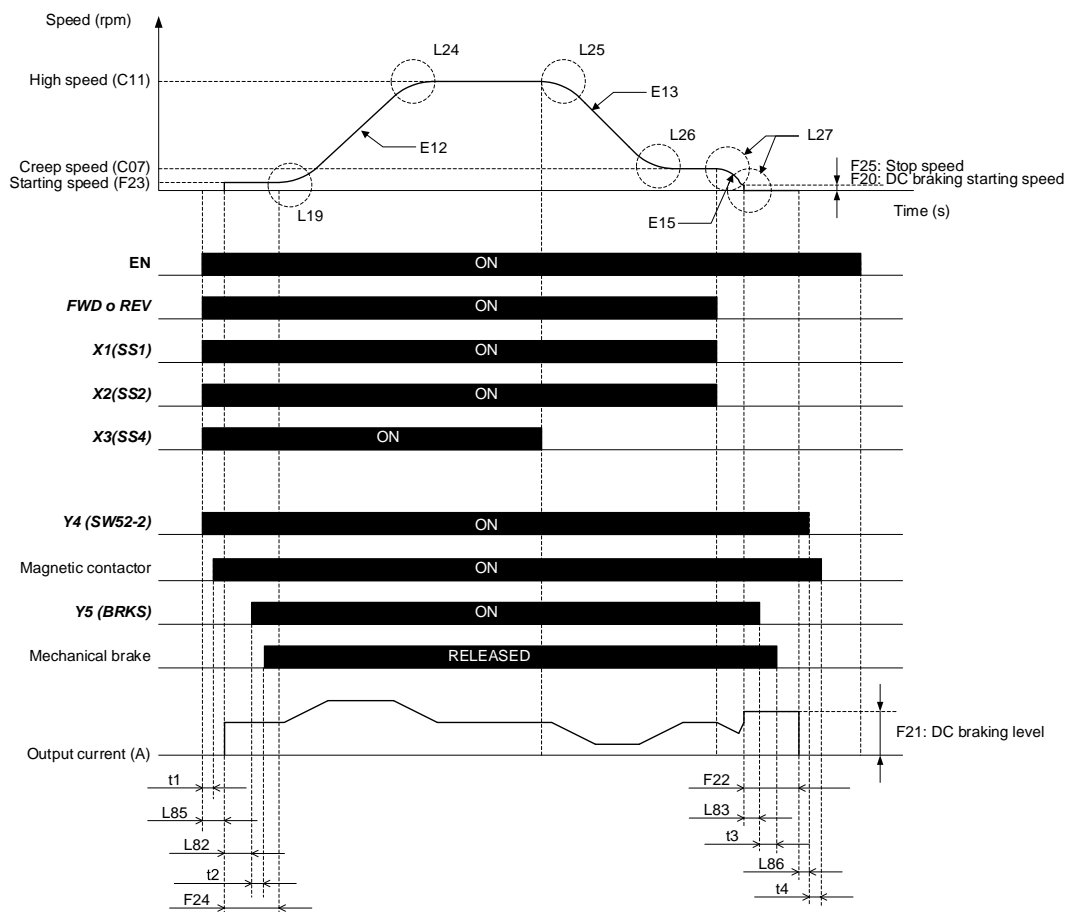

Figure 10.1: Open loop application time and signals sequence diagram.
Figure 10.1 shows a complete time diagram and signals sequence in case of open loop application. It shows a standard travel with a lift controlled by digital inputs with high and creep speed. Only induction motors can be controlled in open loop in a standard lift travel.
- Figure 10.1 is a travel example where brake and main contactor signals are controlled by the inverter. If these signals are controlled by the lift controller, timing might differ.